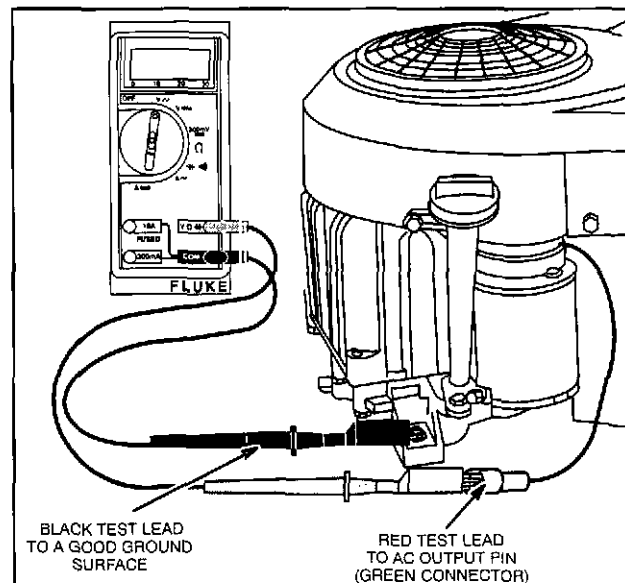

Fig. 17 - Testing Alternator Output
4. Attach RED test lead clip to output terminal, Fig. 17.